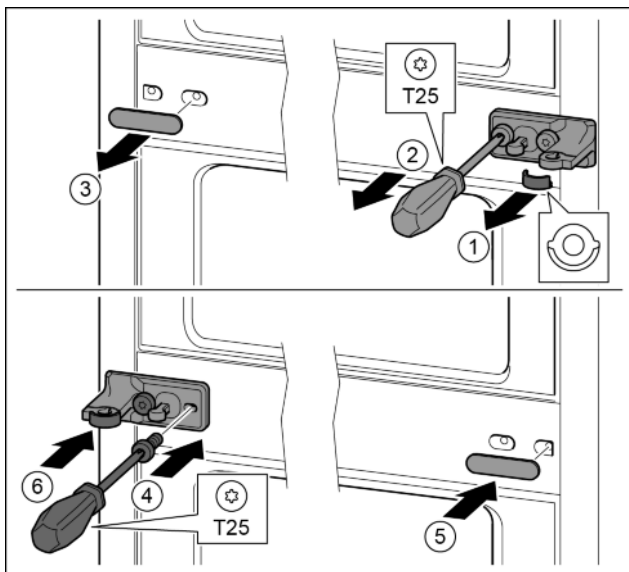

Fig. 15
- Remove the washer. Fig. 15 (1)
- Remove the screws with the T25 screwdriver. Fig. 15 (2)
- Remove the cover carefully. Fig. 15 (3)
- Screw the bearing bracket and the film rotated 180° firmly onto the other side. Fig. 15 (4)
- Attach the cover rotated 180° onto the other side. Fig. 15 (5)
- Push the washer in from the front. Fig. 15 (6)